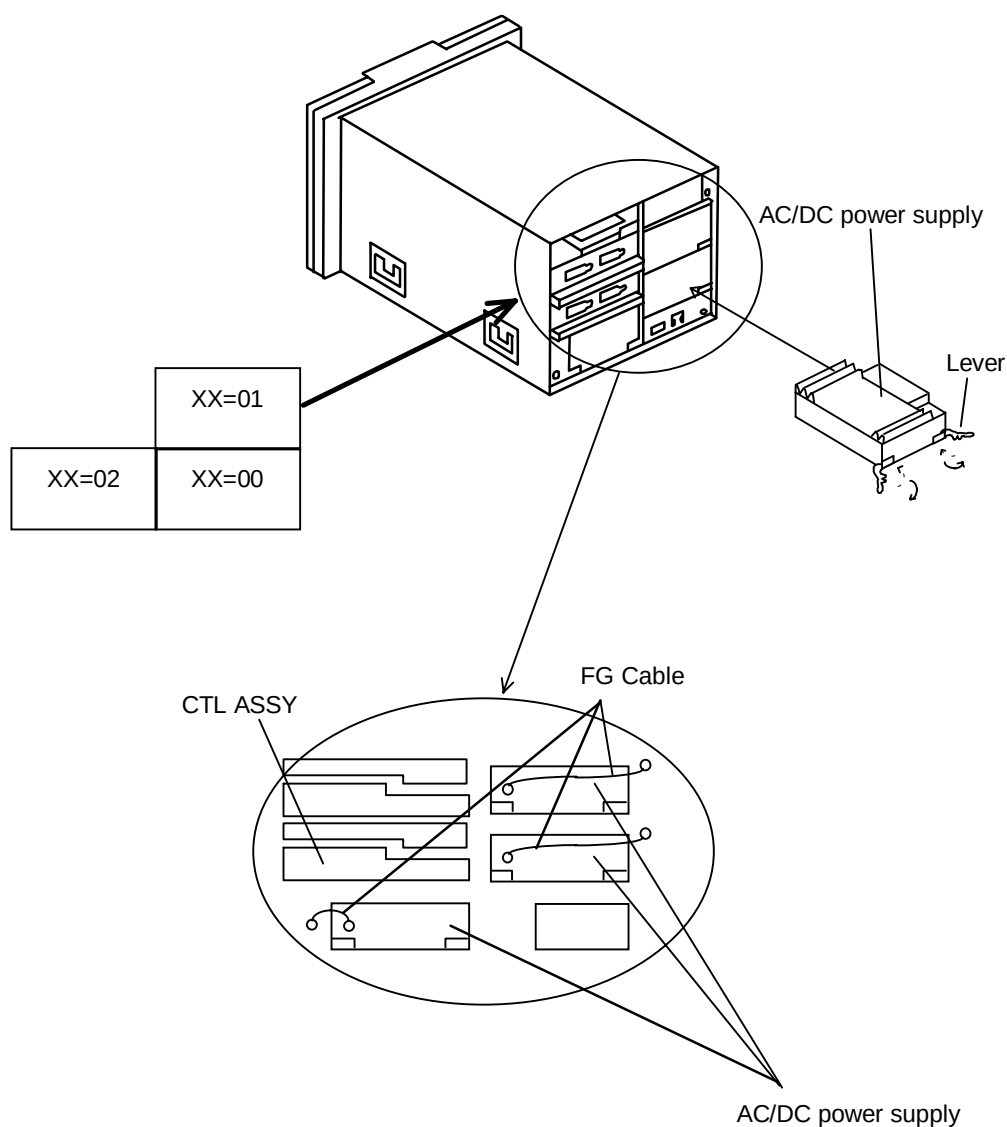

Figure 3.2.5 Setting AC/DC Power Supply
3.2.3 Setting AC/DC Power Supply (See Figure 3.2.5.)